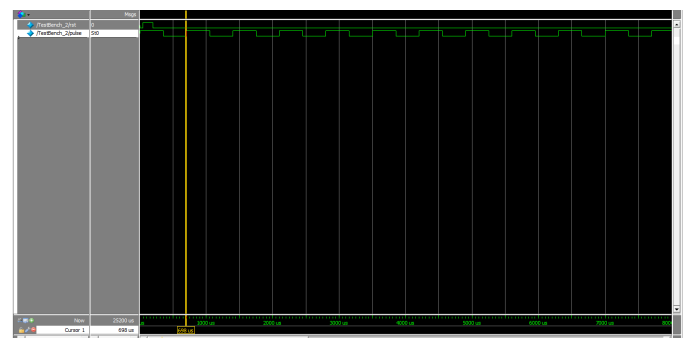

Figure 13
- A clearer picture of Figure13 exists in Project/Part2 folder.